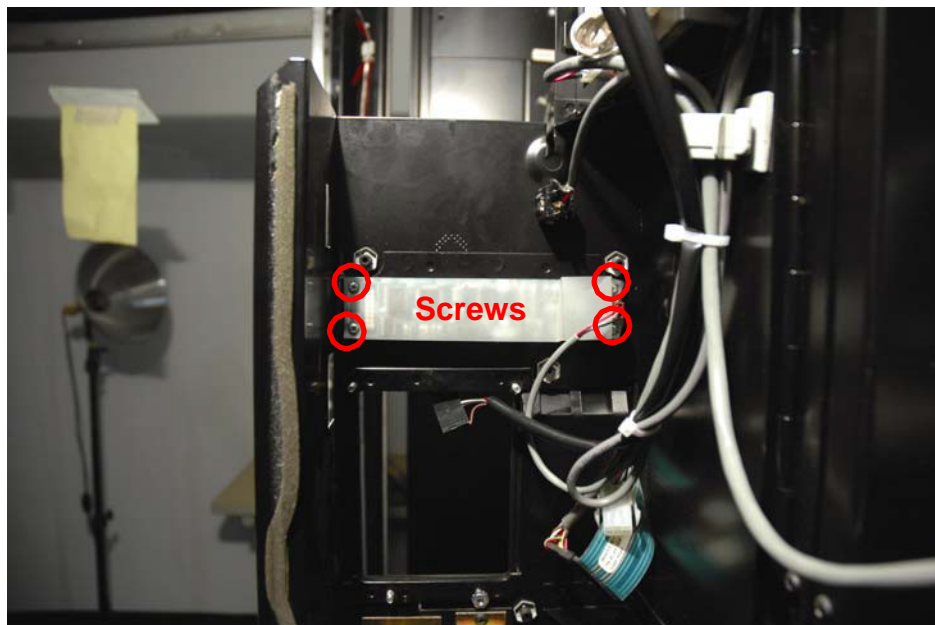

Figure 4
7. Unplug display harness and remove the 4 – Phillips screws holding the display PCB and plastic insulator in place. Save the screws and insulator. See Figure 4.